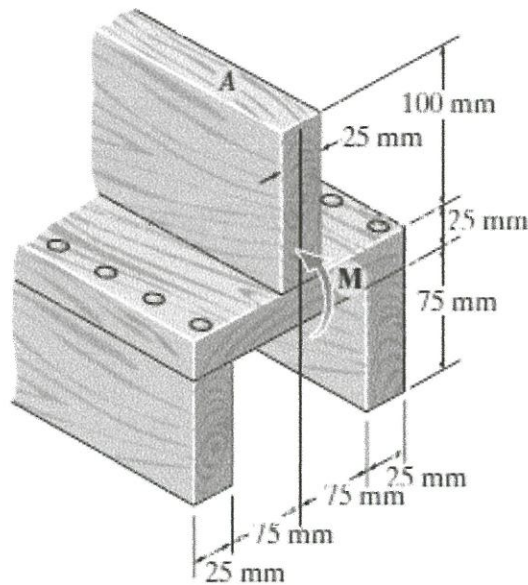

Figure Q3
- Q3.** The beam shown in **Figure Q3** is made of wood. If it is subjected to an internal moment of  $M = 3 \text{ kN/m}$ ,